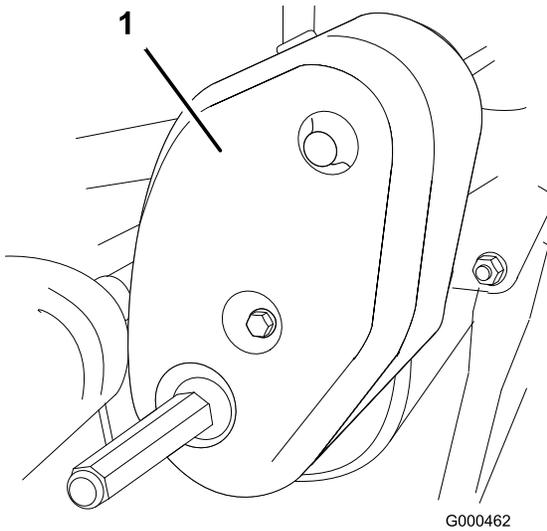

Figure 45
1. Remove belt cover mounting fasteners and belt cover to expose belt (Figure 45).